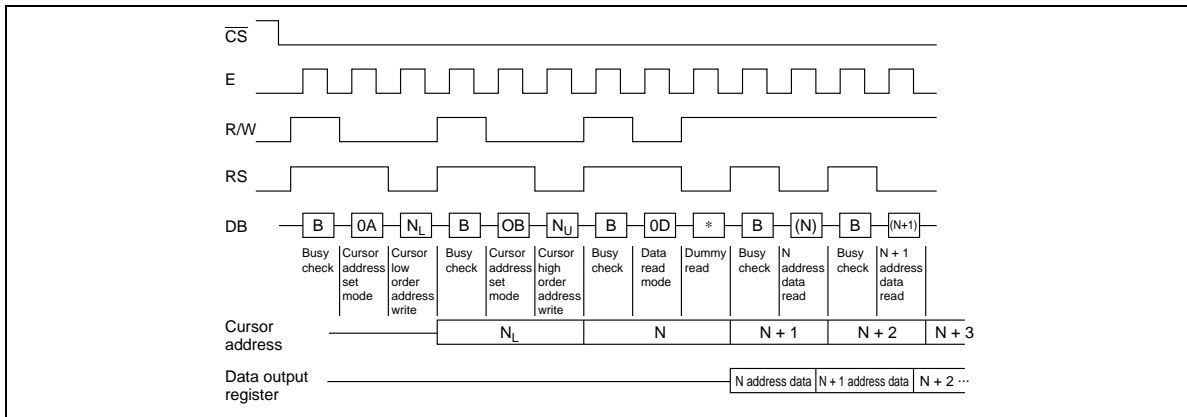

Figure 1 Read Procedure
**9. Read Display Data:** Data can be read from the RAM with RS = 0 after writing code "\$0D" into the instruction register. Figure 1 shows the read procedure.